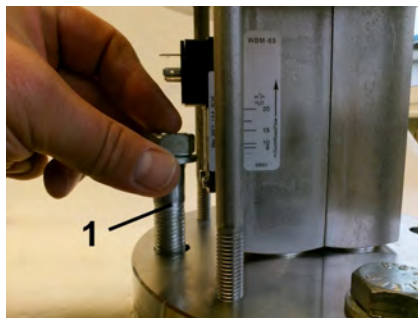

Fig. 12: Bolt the flange
3. ➤ Insert connecting bolts with washers (Fig. 12/1) in the appropriate screw holes and fit with washers and nuts. Tighten nuts evenly crosswise.